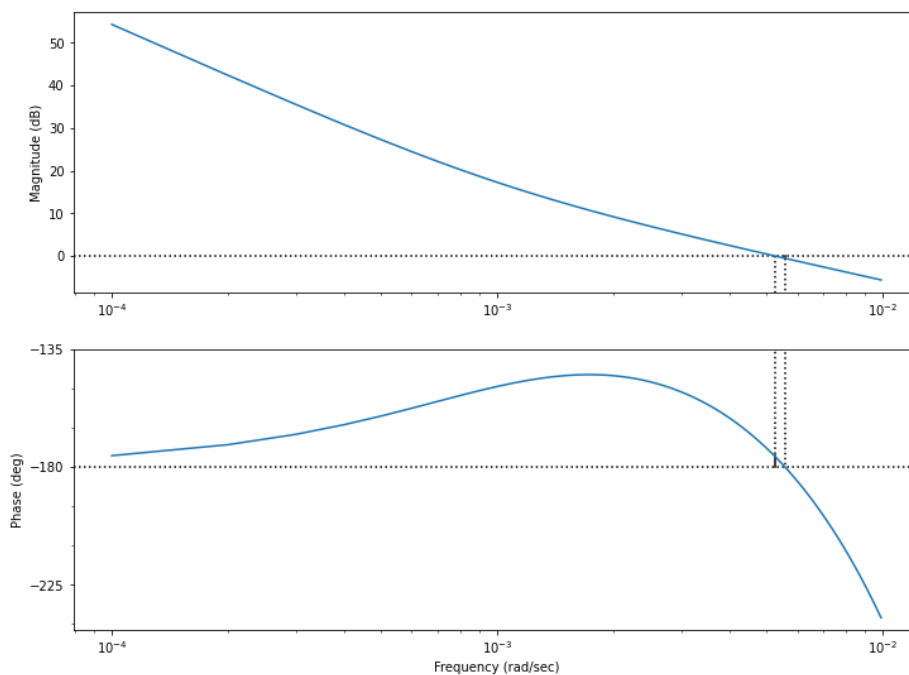

Figure 9
a) (7.5 %) Figure 9 shows the Bode diagram as shown in Spyder.